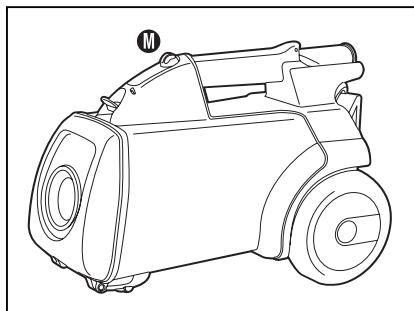

Fig. 8
Step 7: Push on/off switch (M). Press once to turn on. Press again to turn off (Fig. 8).
Step 5: Push on/off switch (M). Press once to turn on. Press again to turn off (Fig. 8).